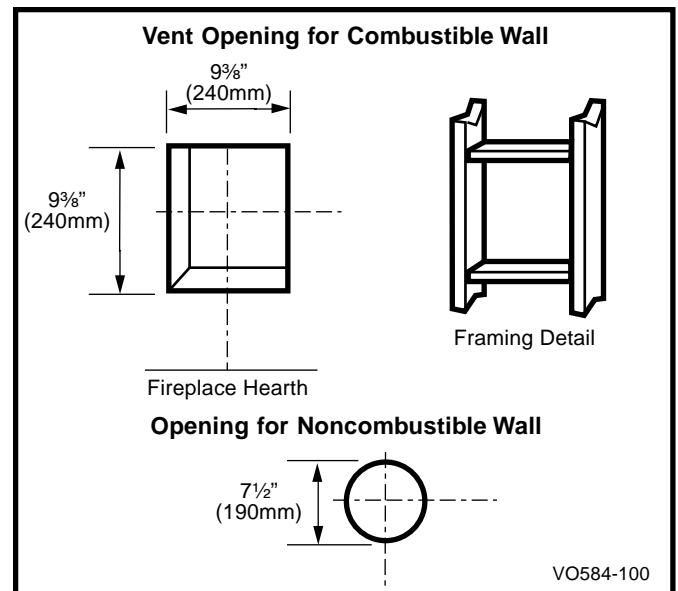

Fig. 22 Locate vent opening on wall.
Locate vent opening on the wall. It may be necessary to first position the fireplace and measure to obtain hole location. Depending on whether the wall is combustible or noncombustible, cut opening to size. (Fig. 22)
**Combustible Walls** (Fig. 22): Cut a 93/8"H x 93/8" W (240 x 240mm) hole through the exterior wall and frame.
**Noncombustible Walls** (Fig. 22): Hole opening must be 7.5" (190mm) in diameter.